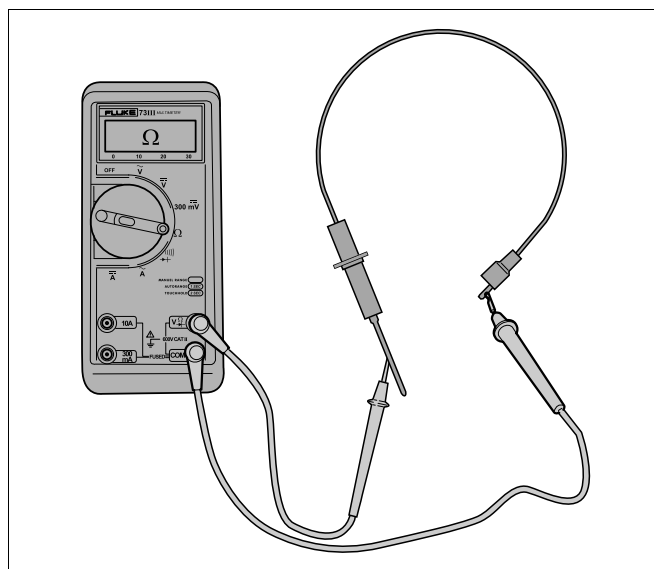

fig. 30 Testing the resistance of the ionization electrode
- Test the resistance of the ionization electrode (see fig. 30). The resistance must be 0 Ω .